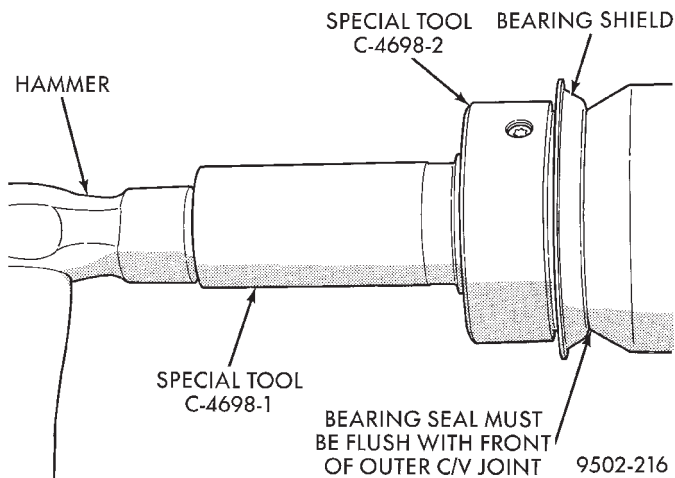

Fig. 53 Correctly Installed Bearing Shield
- (3) Using a hammer, drive the bearing shield on the outer C/V joint until it is flush against the front of the outer C/V joint (Fig. 53).